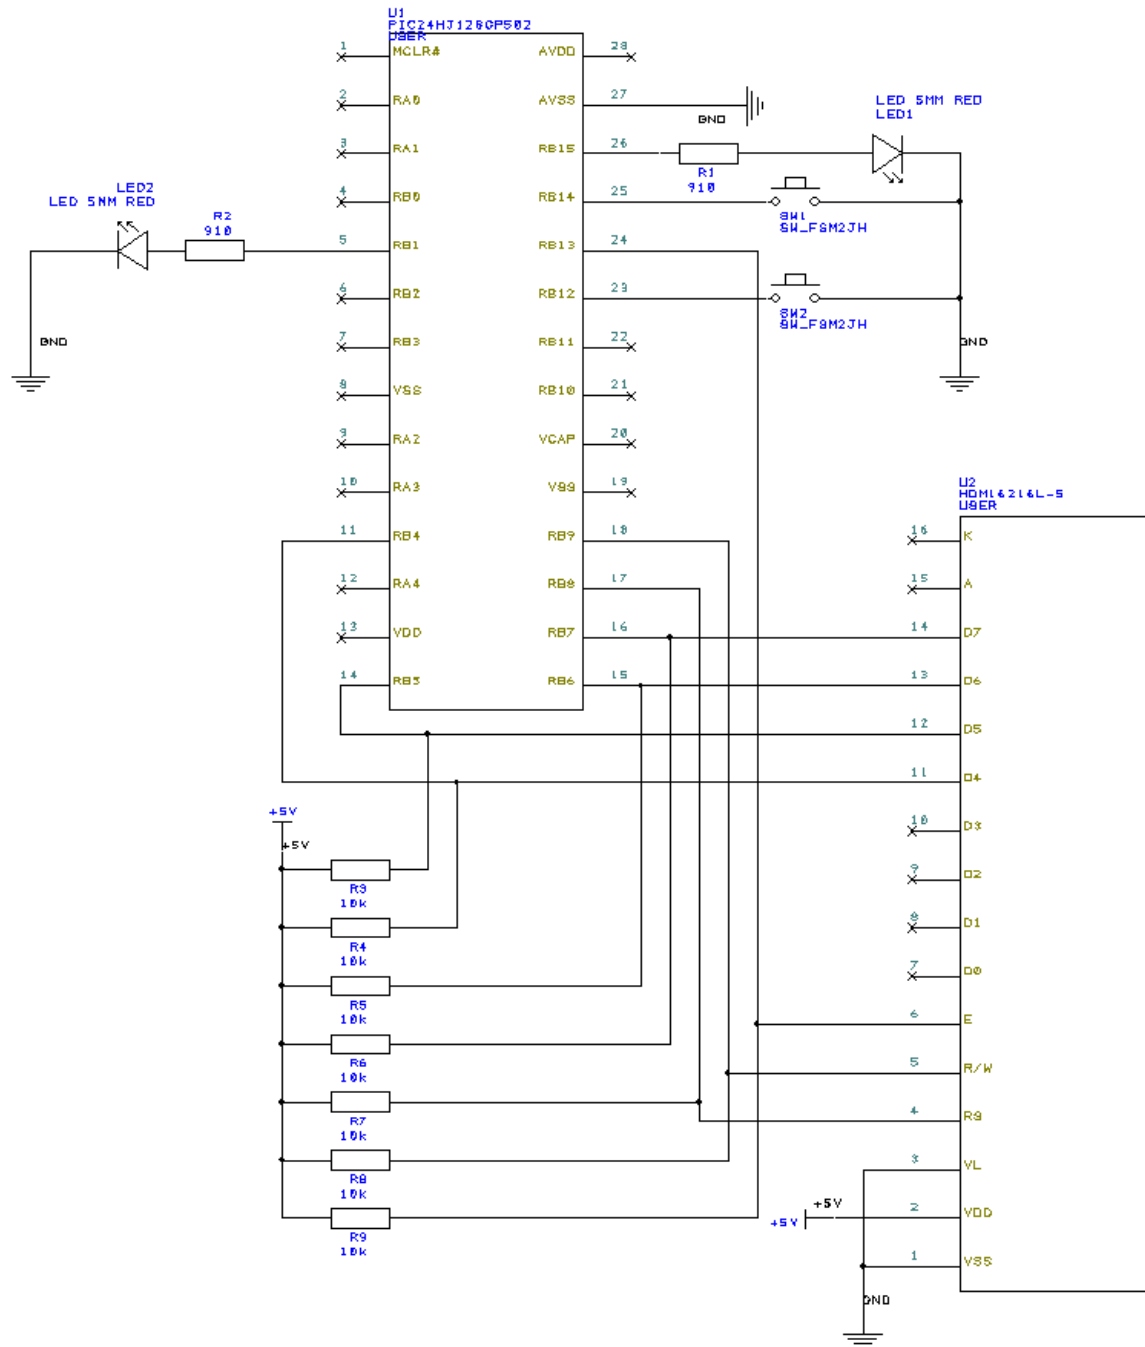

Figure 1. LCD Interface to Microstick II
The LCD interface is divided into control lines (E, R/W#, RS), data lines (D7:D0) and power (VDD, VSS, VL, K, A). The 4-bit interface mode used in this lab is used to reduce the number of connections between the PIC24 and LCD module, allowing 4 transfer lines to be used (D7:D4). D3:D0 are unused. Figure 1 shows a PIC24 LCD interface for a HDM16216L-5-L30S standardized around the HD44780 LCD controller. **Additional information on the LCD interface and programming can be found in Chapter 8 of the textbook (pages 302-310).**
- Wire all data connections as shown in Figure 1.
- Modify the pin values in the code according to Figure 1.